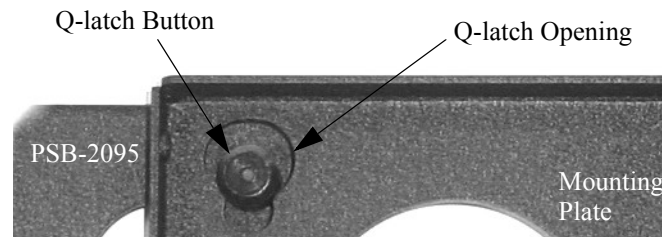

Figure 7. Align Q-latch Buttons with Q-latch Openings
4. Using two people, align the Q-latch buttons with the Q-latch openings (see Figure 7) and install the display.